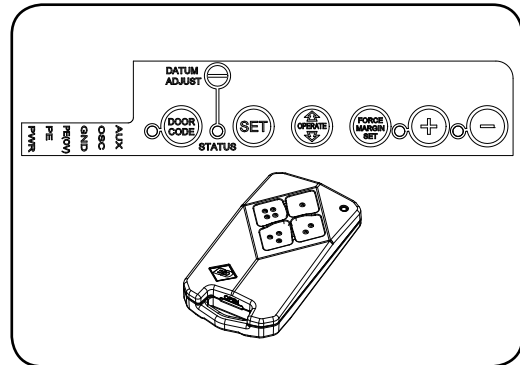

Fig. 29
- Press DOOR CODE button three times. The DOOR CODE LED will illuminate and the courtesy light will flash slowly (once every two seconds) to indicate Vacation learning mode is active. **(Fig. 29)**
- Press the same transmitter button again. The DOOR CODE LED will illuminate for one second and then go out, and the courtesy light will also switch off. This indicates the code has been stored **(Fig. 29)**.